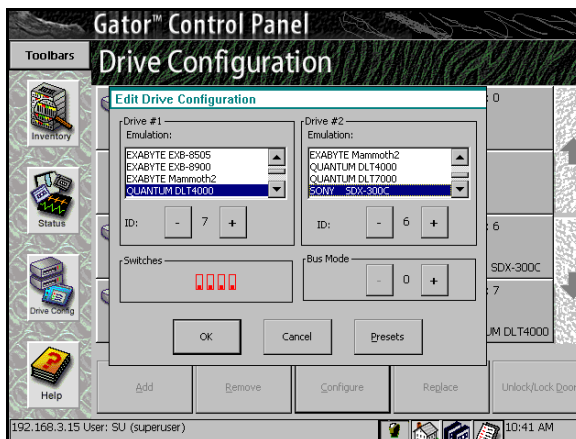

Figure 8-3 Drive Configuration window.
4. In the Drive Configuration screen, select the drive you wish to configure. Tap **Configure Drives**. This brings up the Drive Configuration window (Figure 8-3).